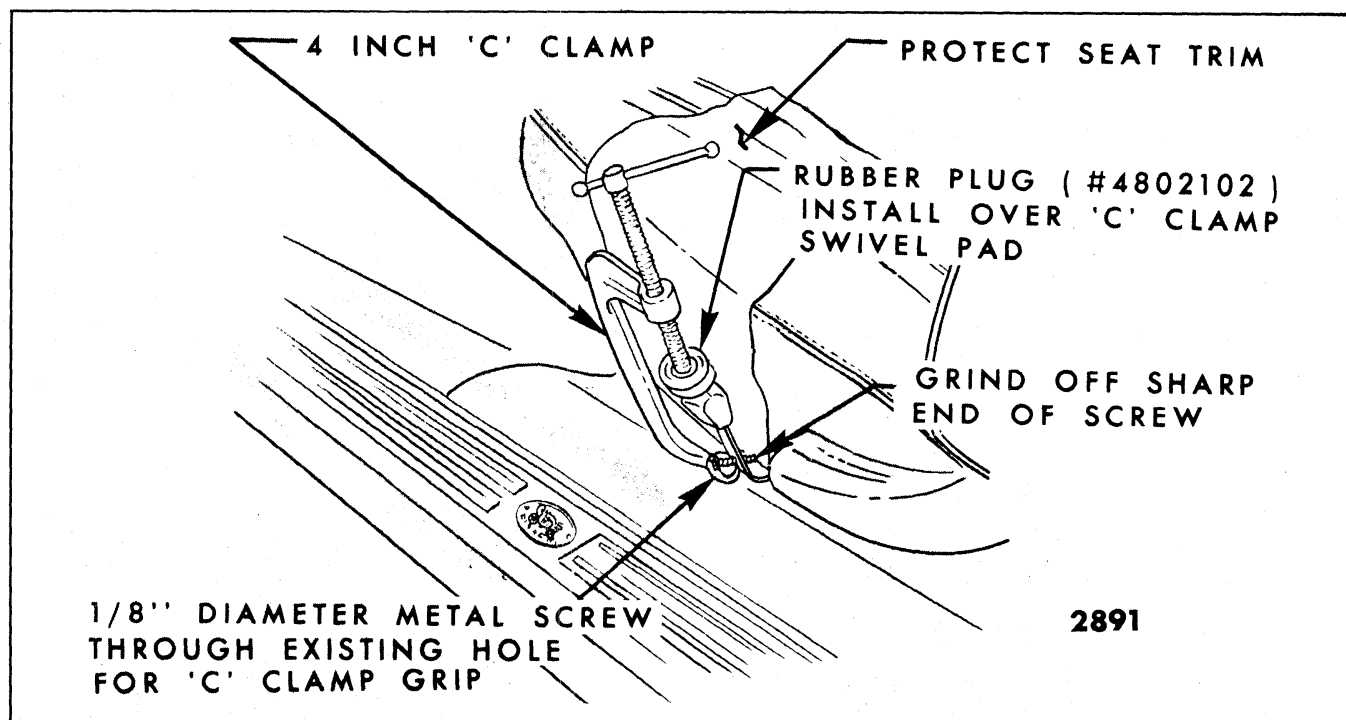

Fig. 9-6-Front Seat Adjuster Control Knob - Installation - Side Control Knob Shown (Front Control Knob Typical)
3. Insert sheet metal screw or drift pin in hole provided in adjuster control arm and place "C" clamp in position as shown in Figure 9-6. Use round rubber plug (Part No. 4802102 or equivalent) over swivel pad of "C" clamp to prevent damage to knob and to prevent "C" clamp swivel pad from slipping off knob.